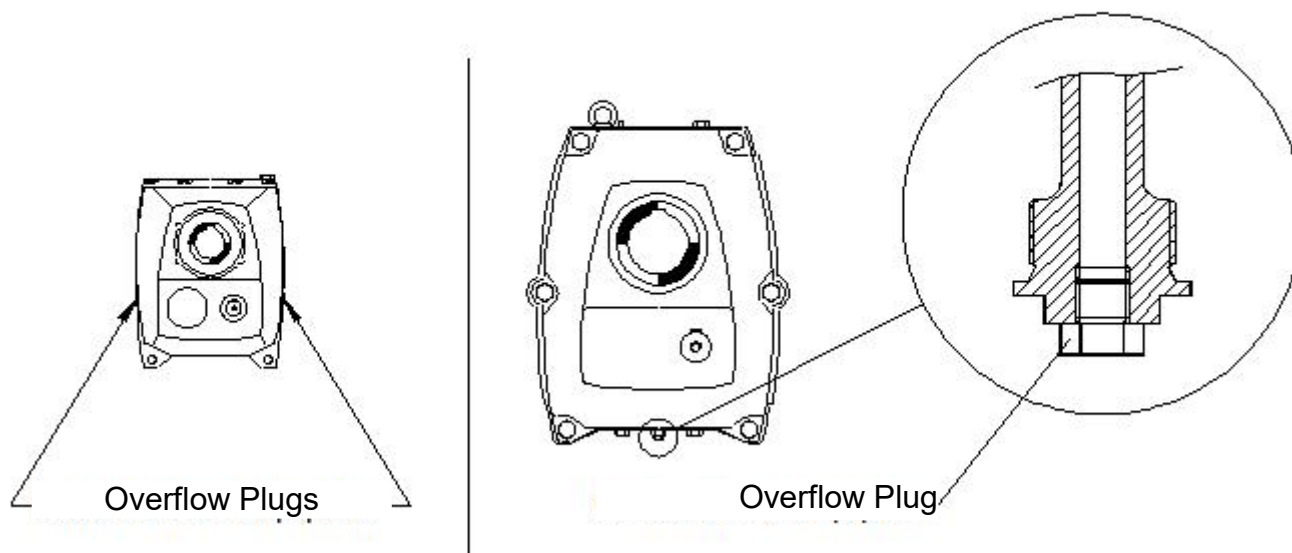

Figure 7: Overflow plugs identification
- ★ ***If unit size 414 to 822 is not equipped with an overflow plug with tube as shown on Figure 7: Overflow plugs identification above oil levels must be adjusted as per Tableau 2: Oil quantities in liters page 7.***